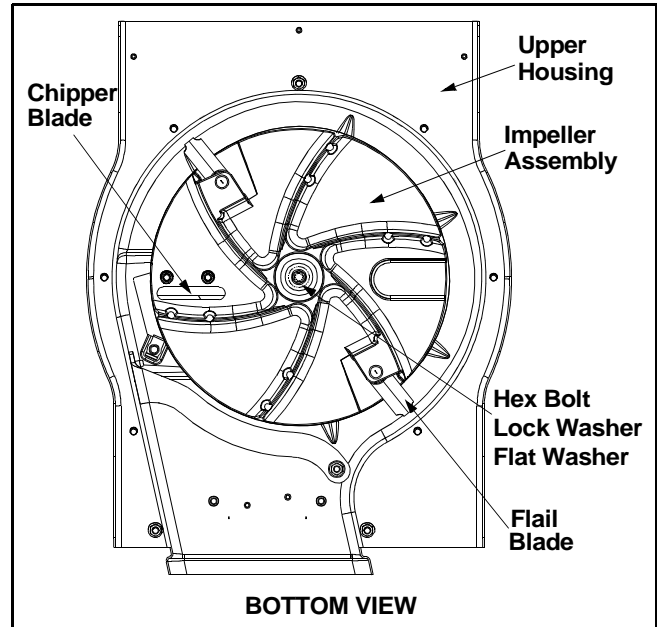

Figure 14
- Remove the hex bolt, lock washer, and flat washer that secure the impeller assembly to the crankshaft. See Figure 14.